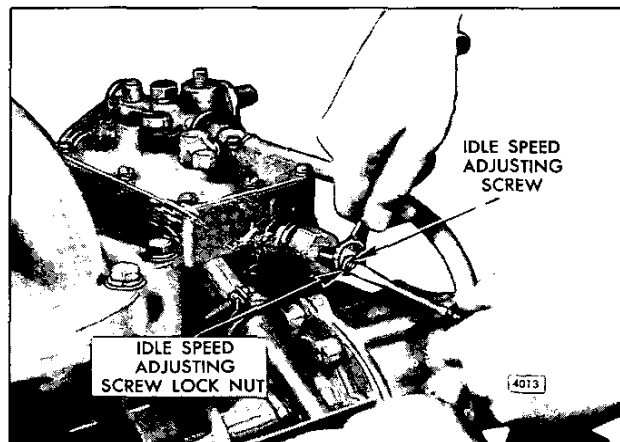

Fig. 9 – Adjusting Engine Idle Speed
1. With the engine running at normal operating temperature and with the buffer screw backed out to avoid contact with the differential lever, turn the idle speed adjusting screw (Fig. 9) until the engine is operating at approximately 15 rpm below the recommended idle speed. The recommended idle